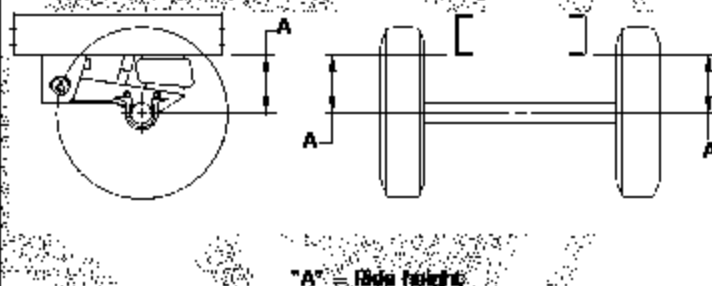

Figure 3 - Description of ride height
2. Set the suspension(s) at the ride height specified on the suspension assembly drawing and the suspension data plate (Figure 3).